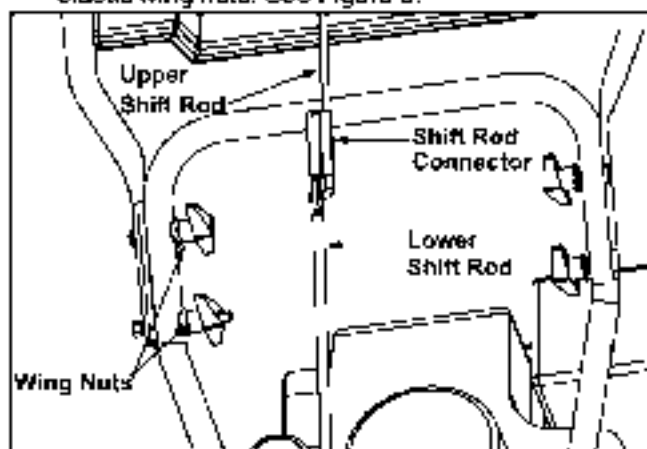

Figure 3
- Secure the upper handle and lower handle with the two plastic wing nuts, cupped washers and carriage bolts previously removed and tighten the upper two plastic wing nuts. See Figure 3.
- Slide the shift rod connector down over the end of the lower shift rod. Tap the connector until it locks over the lower shift rod. See Figure 3.